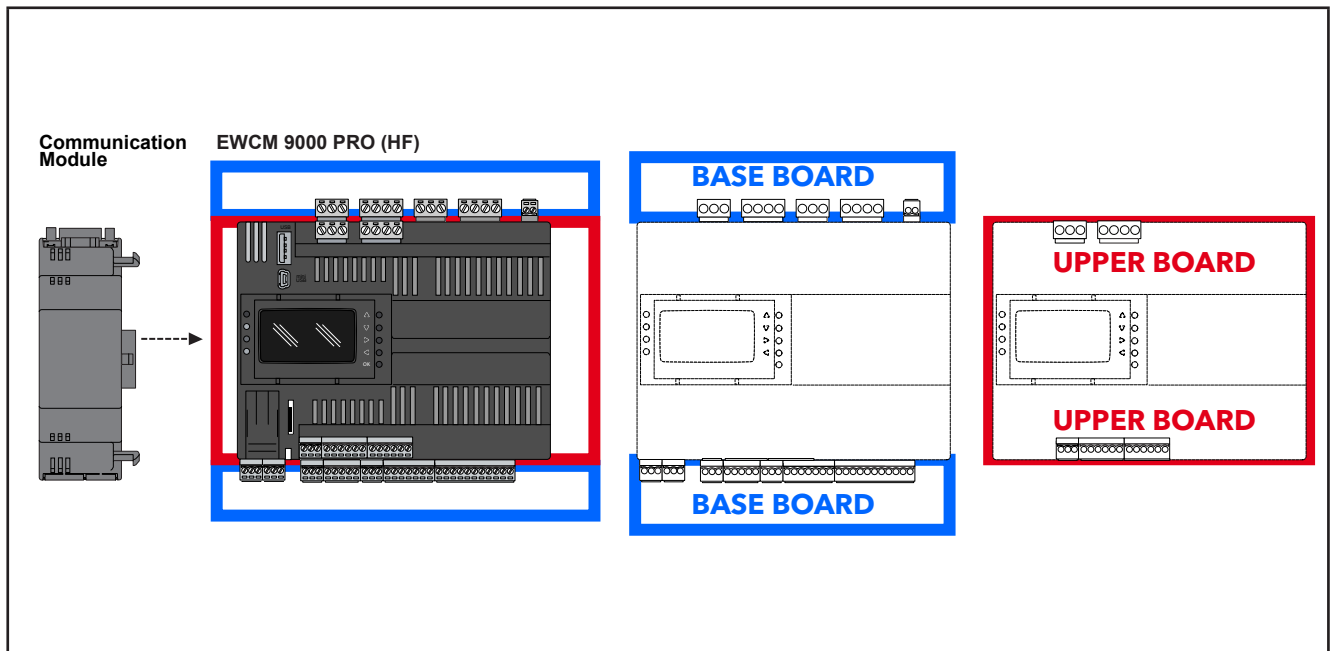

Fig. 2. EWCM 9000 PRO (HF): Base Board and Upper Board
The EWCM 9000 PRO (HF) range (see Fig. 2 on page 16) comprises a Base Board and an Upper Board.